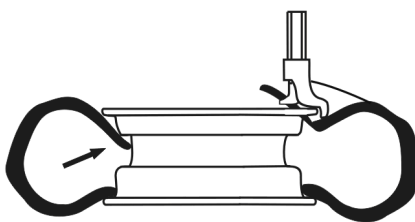

Fig.24
- If a tube needs to be installed in the tire, check first for the possible damages. Round it onto the rim. Make sure to keep the air inlet valve on the tube in the right position throughout the mounting process(as fig.24) .